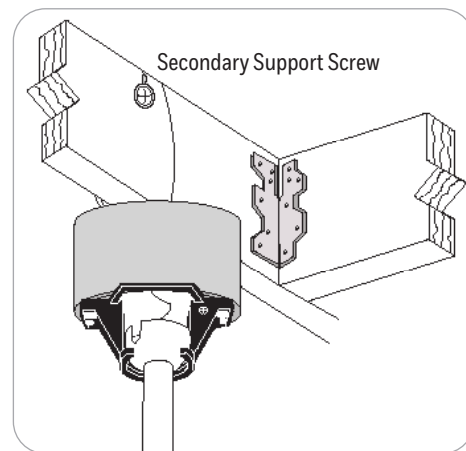

Figure 5.3
3. Tighten the secondary support screw, securing the braided cable (Figure 5.3).